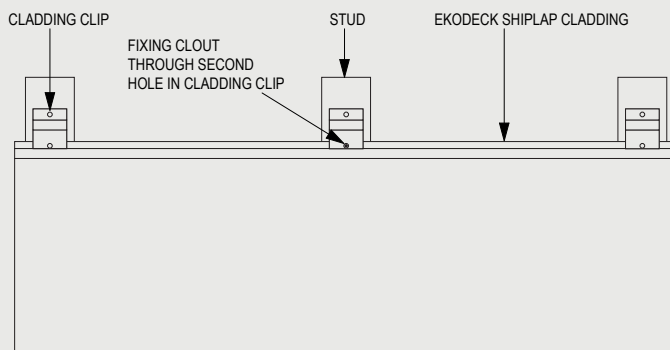

Fig. 1
- At the centre-most stud, pre-drill the cladding board and secure a clout through the secondary hole in the clip (see Figs .1 & 2). This will ensure each Shiplap Cladding board is fully secured.